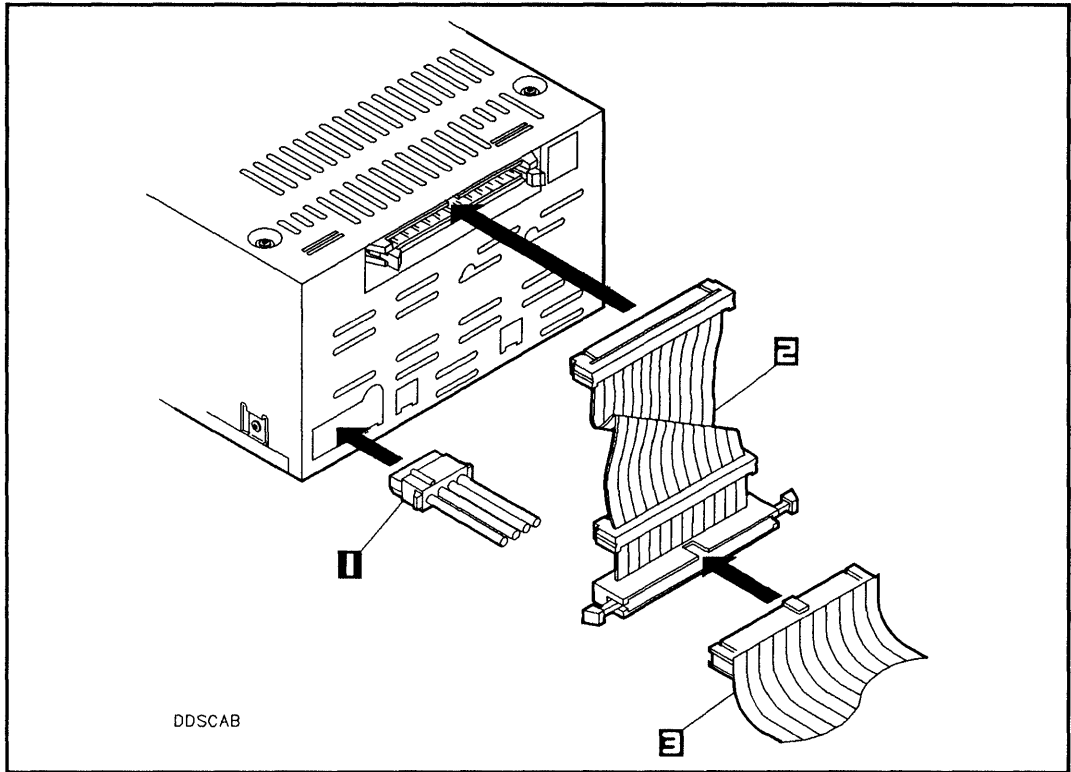
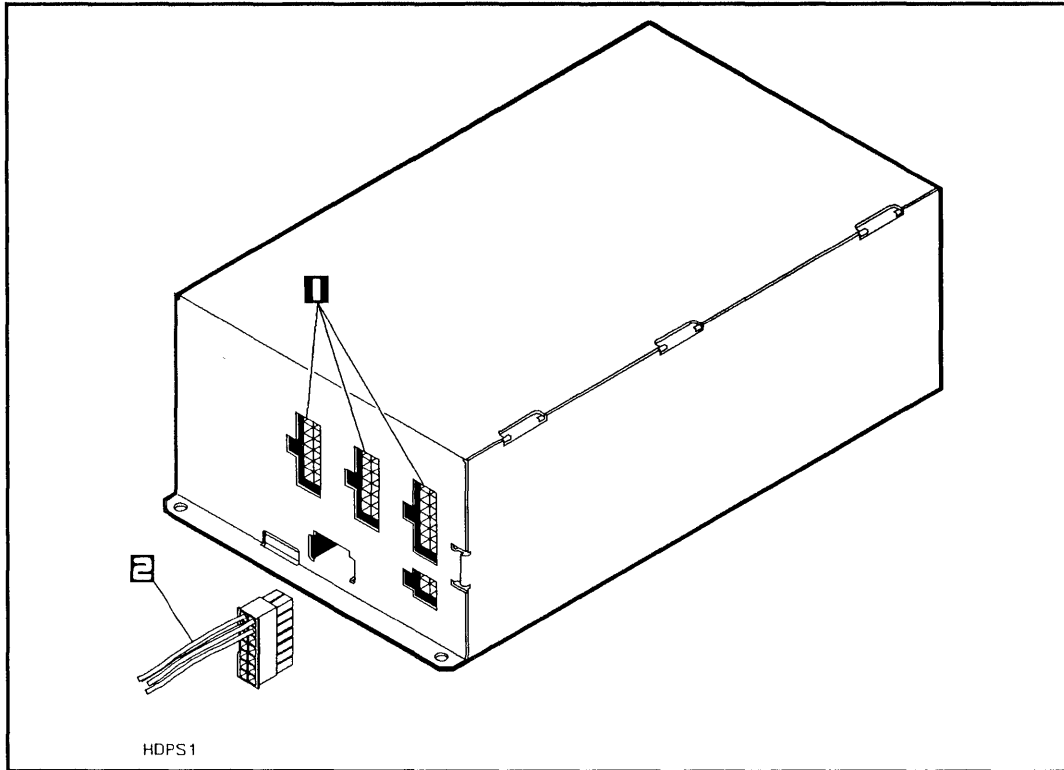

Figure 5-12. Connecting Cables to the DAT Drive
Figure 5-13. Connecting the DC Power Cable
Connect the cables to the DAT drive as follows (see Figure 5-12 and Figure 5-13):
1. Connect one end of the power cable to any of the unused dc power connectors on the power supply (see Figure 5-13), route the power cable to the DAT drive, and connect the other end of the power cable to the dc power connector on the DAT drive.
3. Connect the other end of the BEND/flex cable adapter to the SCSI connector on the DAT drive (see Figure 5-12). The cable adapter may have to be folded slightly as shown to fit properly.
2. Disconnect the dc power cable from the slot 1 power connector on the power supply (see Figure 5-13), then cut the power cable tie wrap.